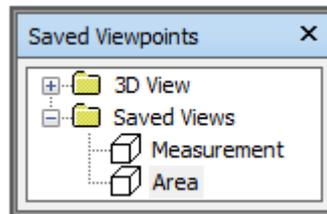
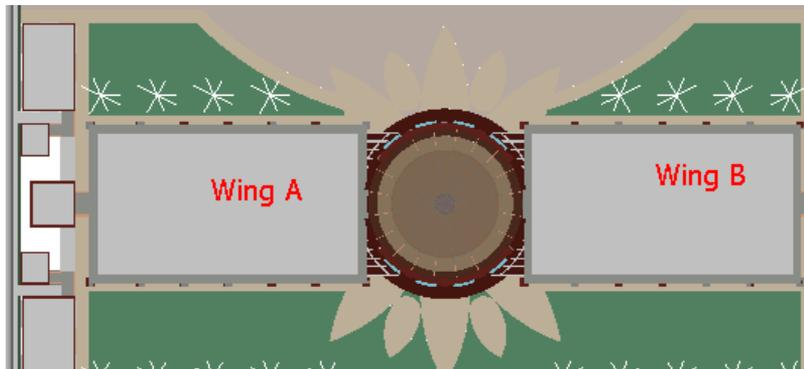

Figure 3-46 Expanded view of the Saved Views folder
Figure 3-47 The Area view in the Scene View
3. Select the **Area** option from the **Saved Views** folder, as shown in Figure 3-46; the view is displayed in the Scene View, as shown in Figure 3-47. Now, close the **Saved Viewpoints** window.